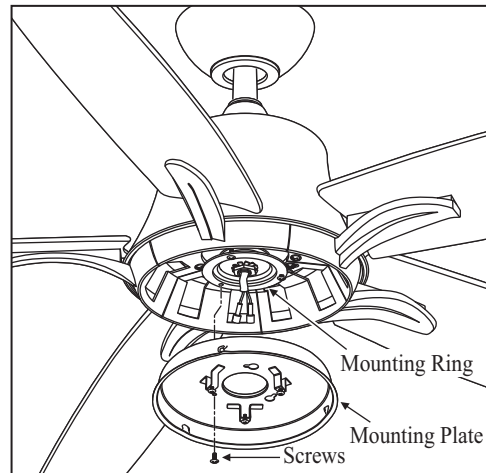

Figure 19
2. Place the key holes on the mounting plate over the 2 screws previously loosened from the mounting ring, turn mounting plate until it locks in place at the narrow section of the key holes. Secure by tightening the 2 screws previously loosened and the one previously removed. (Fig. 19)